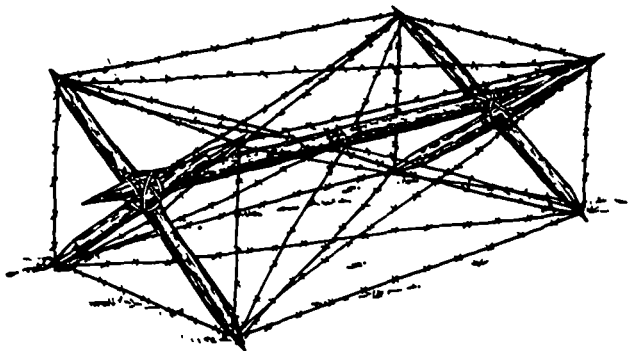

Figure 155: Knife rest.
f. Knife Rest. The knife rest (fig. 155) is a portable obstacle. It consists of a wooden or metal frame strung with barbed wire. It is used whenever a readily removable barrier is needed; for example, at lanes in wire obstacles or at road-blocks. With a metal frame it can be used as an effective underwater obstacle. Knife rests are normally constructed with 3 to 5 meters between cross members. They should be approximately 0.2 meters high. The cross members must be firmly lashed to the horizontal member with plain wire. When used as a fixed obstacle the knife rest must be secured to the ground.